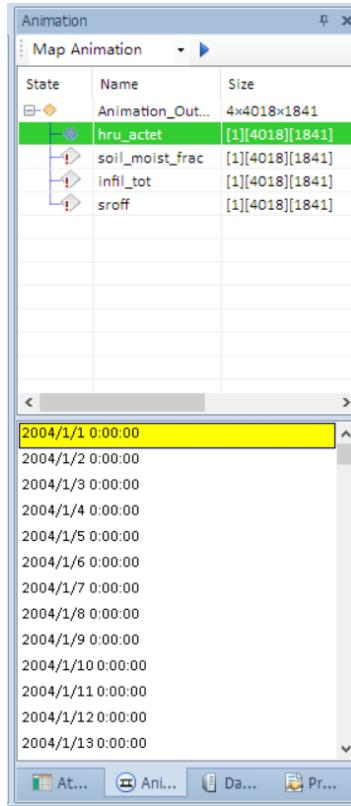

Figure 8-15. The list of date times associated to the hru_actet variable.
- 4) Left click the “hru_actet” in the above figure. Then the list of date times associated to the hru_actet is displayed in the lower half of the Animation Panel (Figure 8-15).